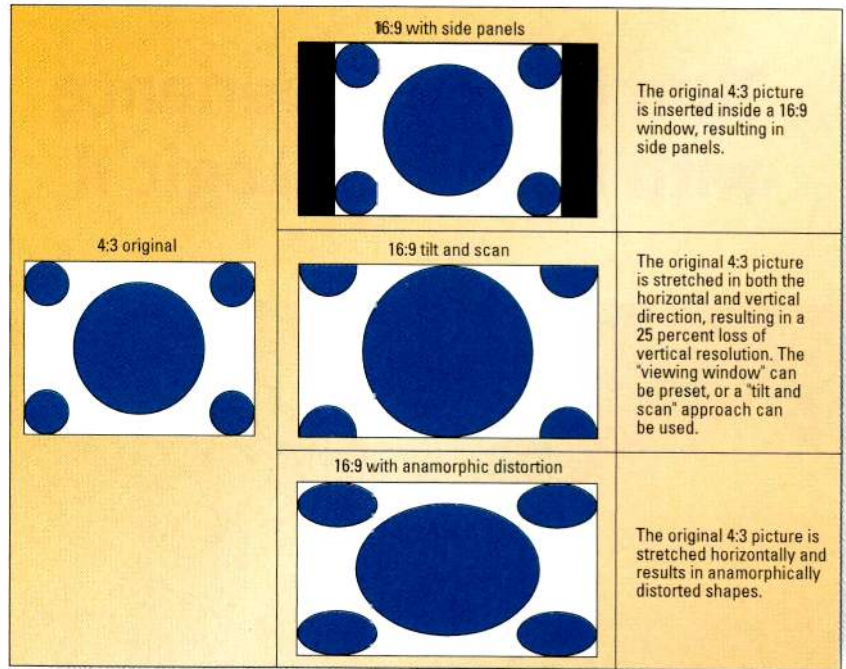

Figure 2. The typical methods used for upconversion are the side panel mode, the tilt scan mode and the anamorphic distortion mode.
Upconversion applies to methods that increase the 4:3 aspect ratio SDTV 720x480 sampling grid to a full 16:9 aspect ratio sampling grid (1920x1080 or 1280x720). The process is best referred to as resizing, and it changes the original size of the image, i.e. the number of Y, C_B, C_R pixels used to represent the image to the selected target size. Figure 2 depicts the typical methods used.
- *The anamorphic distortion mode.* Figure 2 shows the manner in which a 4:3 aspect ratio picture is stretched horizontally to fill a 16:9 aspect ratio screen, which results in anamorphic distortion.
Figure 2. Combining NAS and SAN allows designers to provide high-speed direct storage connections where needed while still allowing more conventional network-drive storage for desktop applications.
What do you do if you have a modern facility, a 10/100 Mb/s network, you are out of capacity, and your users are demanding even more collaborative workflow support? One solution would be to employ both SAN and NAS. Let's take a look at one implementation you could build today. (See Figure 2.)